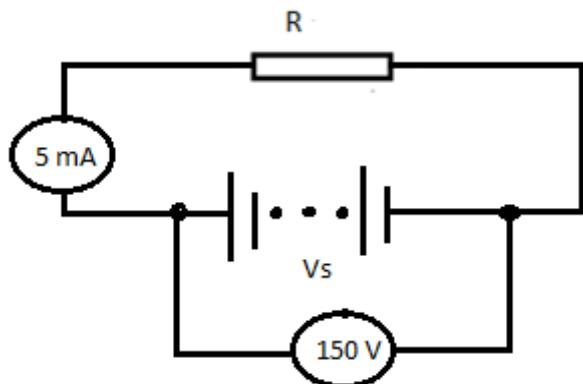

FIGURE 3.1: SIMPLE CIRCUIT
3.6 The ammeter and voltmeter in Figure 3.1 reads 5 mA and 150 V respectively. Calculate the value of the resistor. (3)